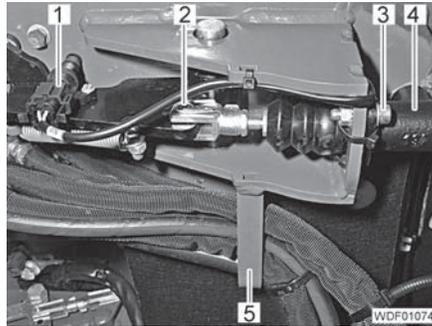

Fig. 352 Main brake cylinder
- Carefully attach the main brake cylinder (Fig. 352,4) from the rear.
- Screw in 2 screws (Fig. 352,3) with washers and tighten.
- Push the pin (Fig. 352,2) through the fork end and secure.
- Attach the plug on the switch (Fig. 352,1) of the service brake.